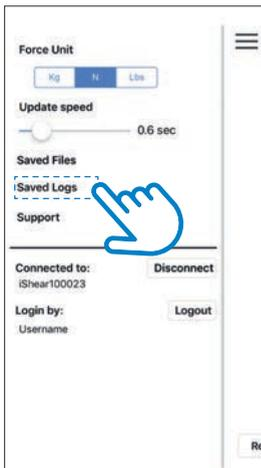
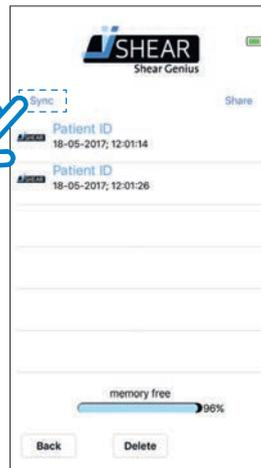
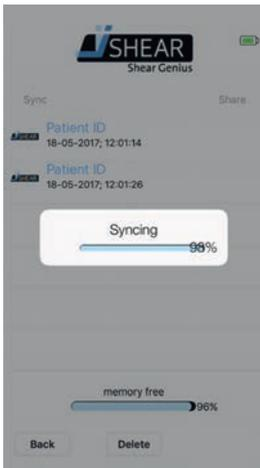

Figure 30 - Tap Saved Logs
Figure 31 - Saved Logs
Figure 32 - Syncing Logs
4. Choose 'Saved Logs' (see Figure 30). This takes you to the list of saved Logs (see Figure 31).
5. To make sure you see all the Logs created by your User account, you first have to synchronise the Log data. 'Sync' will be blue if you need to synchronise. Tap 'Sync' (see Figure 31). Your saved Logs are then synchronised (see Figure 32).
4. Choose 'Saved Logs' (see chapter 5.5.1.2 – Figure 30). This takes you to the list of saved Logs (see chapter 5.5.1.2 – Figure 31).
5. To make sure you see all the Logs created by your User account, you first have to synchronise the Log data. Tap the 'Sync' button (see chapter 5.5.1.2 – Figure 32). Your saved Logs are then synchronised.